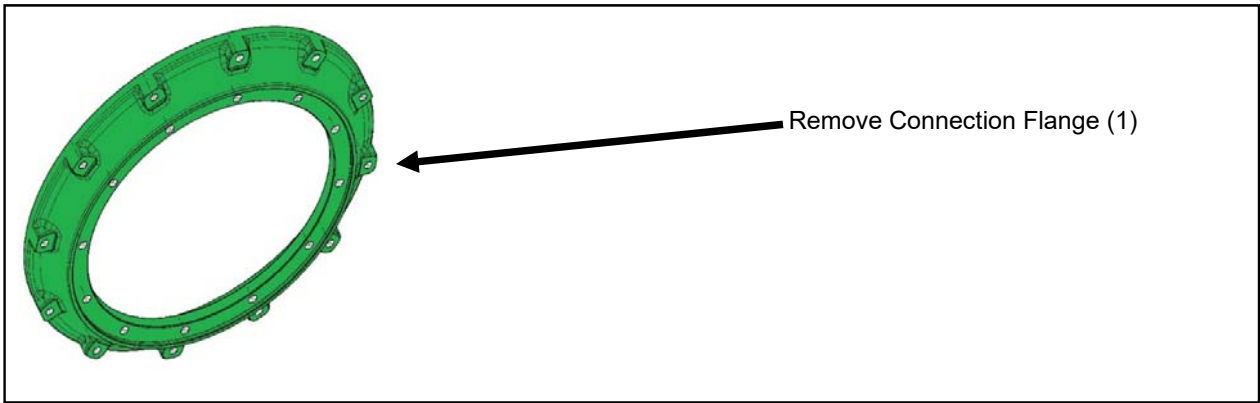

Figure 3.2b—DIWA.3 Connection Flange
- **Do Not** send the Bell Housing Adapter (also called mounting/connection flange) back to Voith. (Figure 3.2b)